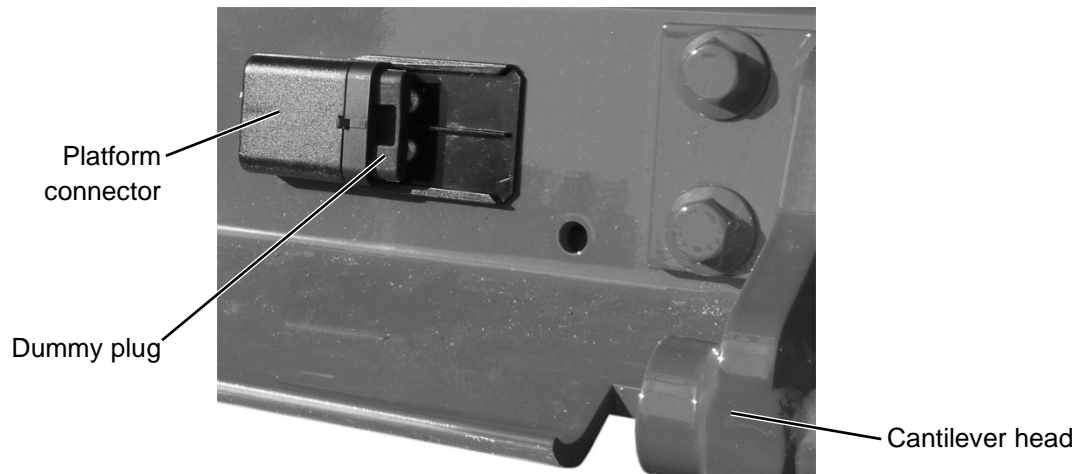

Figure 42: Platform connector
For the installation of the tilt sensor **B15S**, a platform connector is provided on the underside of the platform next to the right cantilever head (see Figure 42). The platform connector and the tilt sensor **B15S** are also used to supply power to the electrical components of the platform.
- ▶ Remove the dummy plug from the platform connector (see Figure 42).